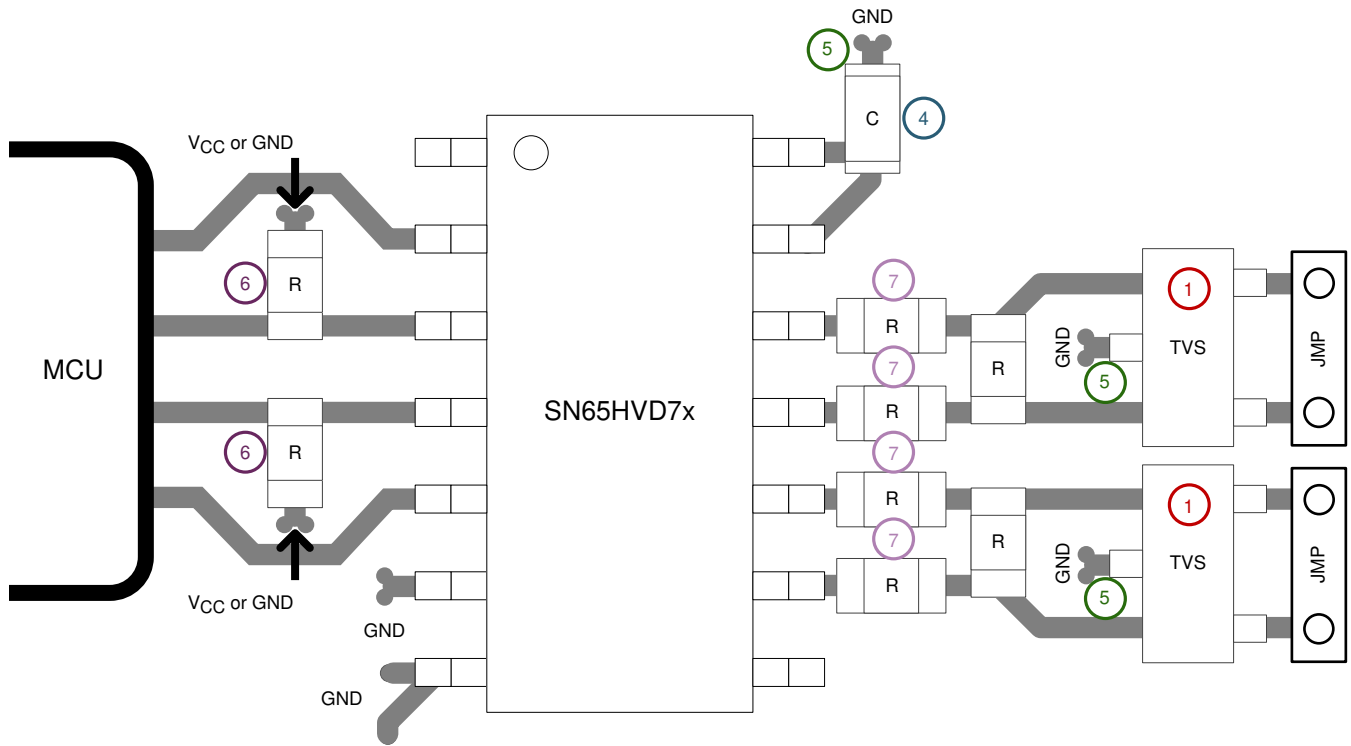

图 41. SN65HVD7x Layout Example
For successful PCB design, begin with the design of the protection circuit (see Figure 41).
4. Apply 100-nF to 220-nF bypass capacitors as close as possible to the  $V_{CC}$ -pins of transceiver, UART, controller ICs on the board (see Figure 41).
5. Use at least two vias for  $V_{CC}$  and ground connections of bypass capacitors and protection devices to minimize effective via-inductance (see Figure 41).
6. Use 1-k $\Omega$  to 10-k $\Omega$  pullup and pulldown resistors for enable lines to limit noise currents in these lines during transient events (see Figure 41).
7. Insert pulse-proof resistors into the A and B bus lines if the TVS clamping voltage is higher than the specified maximum voltage of the transceiver bus pins. These resistors limit the residual clamping current into the transceiver and prevent it from latching up (see Figure 41).